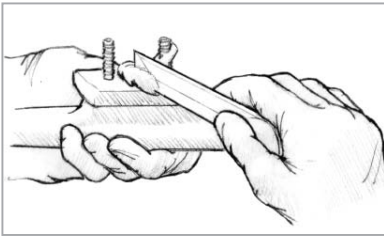

Figure 17 Coat the hardware bottom and the fastener threads with thickened epoxy.
4. Inject a non-sagging epoxy/404 or 406 mixture into the hole. Use enough mixture so there are no voids in the hole after inserting the fastener. Coat the bottom of the hardware and the fastener threads with thickened epoxy (*Figure 17*).